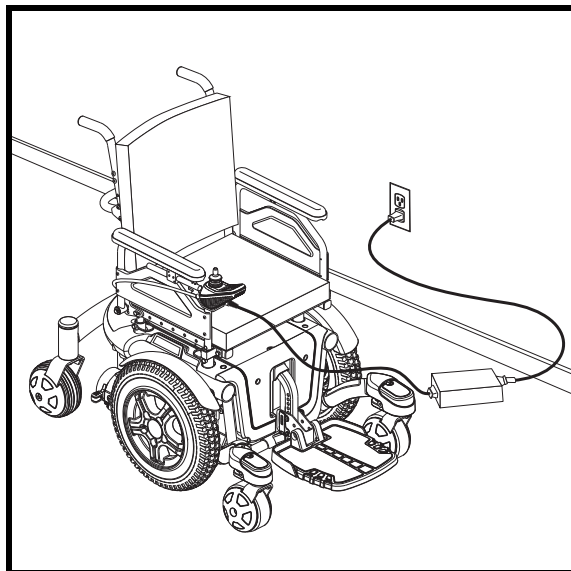

Figure 24. Battery Charging
1. Position the front of your power chair next to a standard electrical outlet. **See figure 24.**